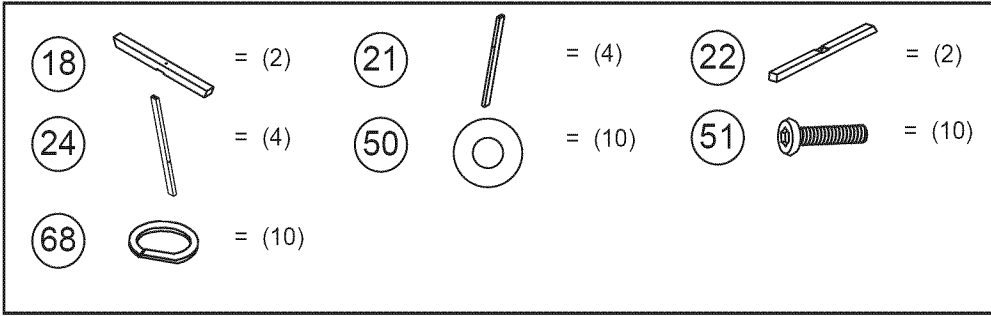

FIG. 8
- Attach the Leg Frame - A (#18) to the Leg Frame - B (#22) using one Bolt (#51), one Washer (#50), and one Spring Washer (#68). See Fig. 8.